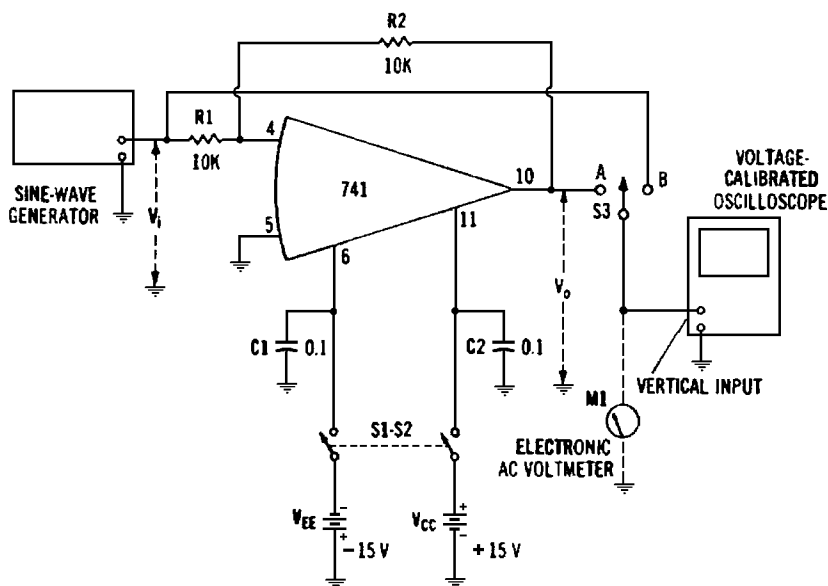

Fig. 2-25. Ac follower operation (inverting).
Since the output-signal polarity here is the opposite of the input-signal polarity, this circuit (Fig. 2-25) might not be regarded as a follower at all, but simply as an inverting amplifier with unity gain.
### Required Equipment (Fig. 2-25)
1. With switch S1-S2 open, switch S3 set to position B, the oscilloscope and generator off, and the generator output attenuator set to zero, set up the test circuit as shown in Fig. 2-25.